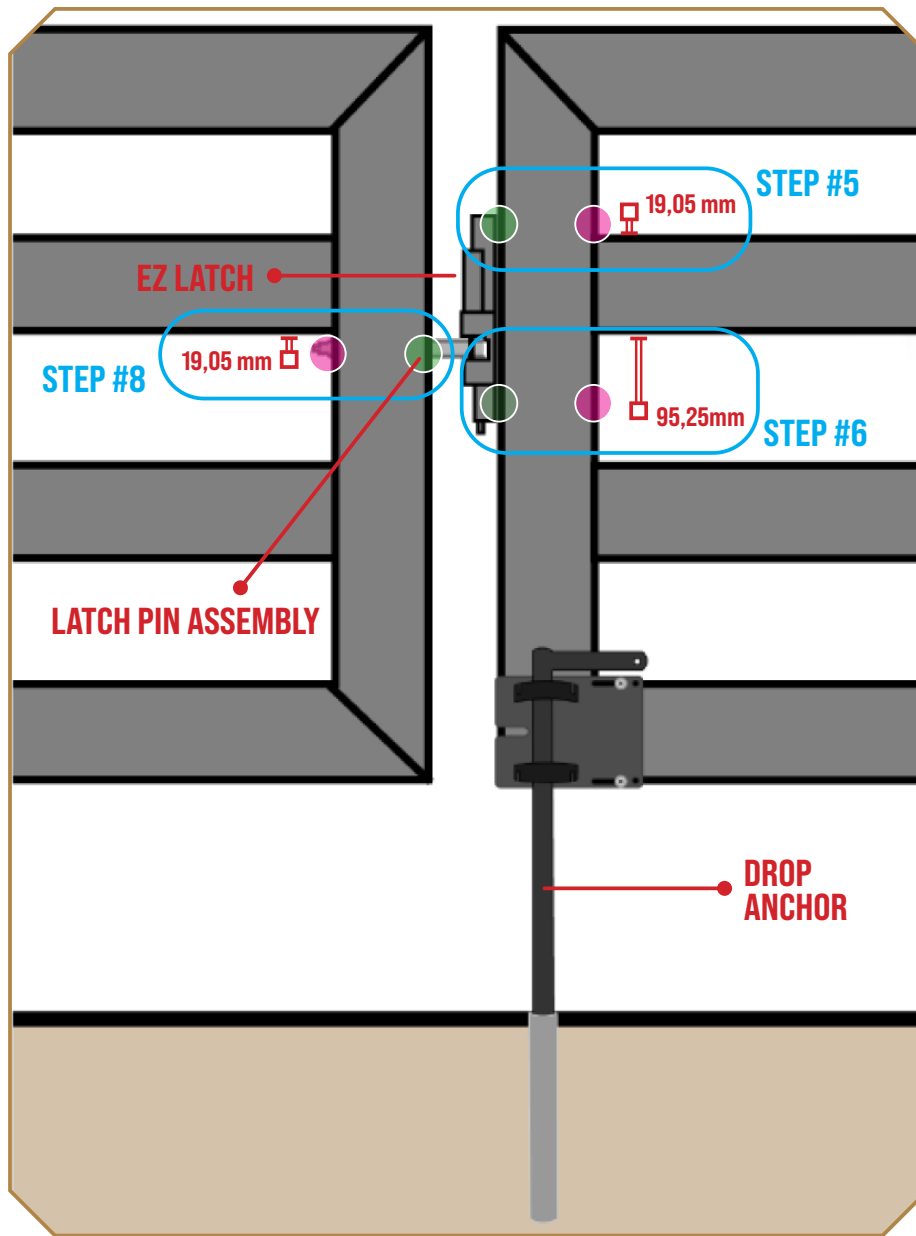

Figure 2
2. Drill three 16,67 mm holes (1 hole on the pin-gate; 2 holes on the ground-anchor gate) using a step drill. Reference the pink circles on Figure 2 for placement.
3. Drill three 10,32 mm holes on the outside face of both gates (1 hole on the pin-gate; 2 holes on the ground-anchor gate) using a step drill. Reference the green circles on Figure 2 for placement.